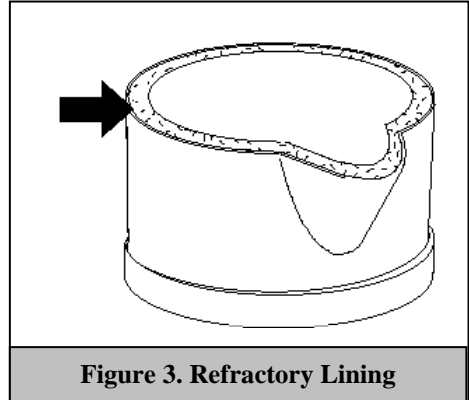

Figure 3. Refractory Lining
Step 3: Check to make sure the refractory lining has been properly installed, cured and preheated, according to manufacturer/ supplier instructions. Refer to the ladle assembly drawing (see **Appendix E**), for complete ladle refractory configuration. (See Figure 3.)